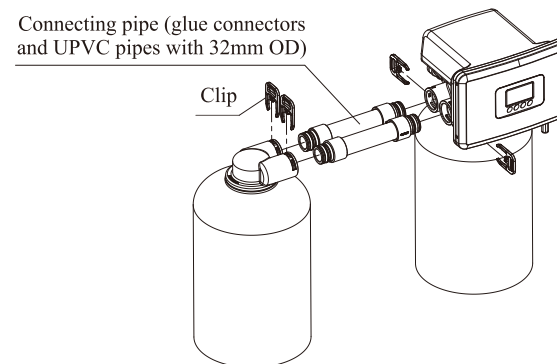

Figure 3
d. As Figure 3 shows, connect the control valve and left tank valve body with two UPVC pipes with 32mm OD, and insert clips.